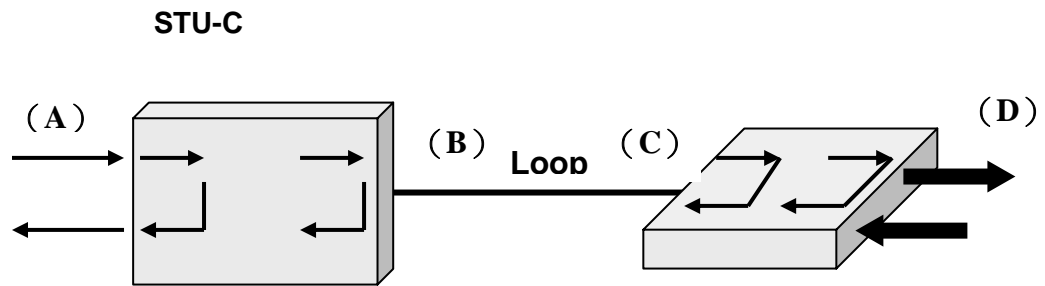

Figure 2.1 Near End Loop Back
In this mode, The NLB capability is set up inside STU-C/STU-R as close as possible to the network side interfaces. The NLB is capable of control (activation and deactivation) by CID. The received signal is sent to the loop during the NLB is activated. For example, if Near End Loopback is activated at STU-C, the direction of Near End Loopback would be like (A) in figure 2.1.